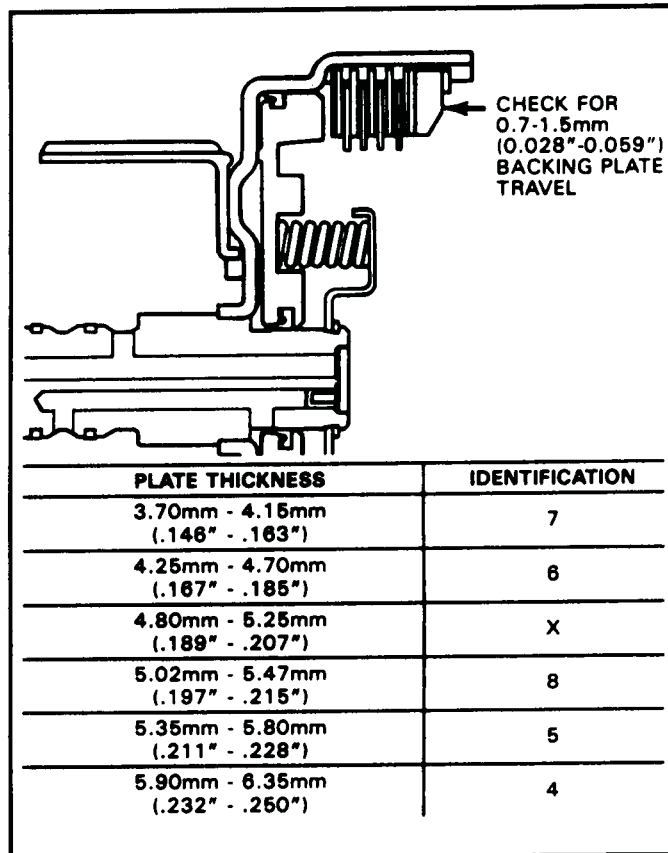

Figure 94
34. Use the chart in Figure 94 to select the proper thickness backing plate.